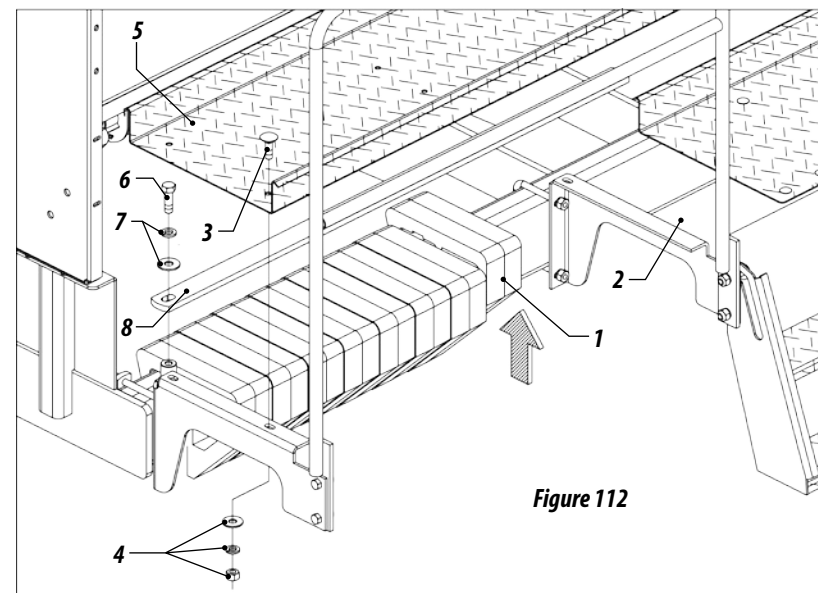

Figure 112
- 19- Loosen the bolt (#3), washer and nut (4), remove the catwalk sheet metal (#5), remove the bolt (#6), washers nuts (#7) and the sheet (#8).
- 20- Install one extra-weight in each side and other on the center, repeat this procedure until get the amount desired, and then mount the catwalk again, figure 112.